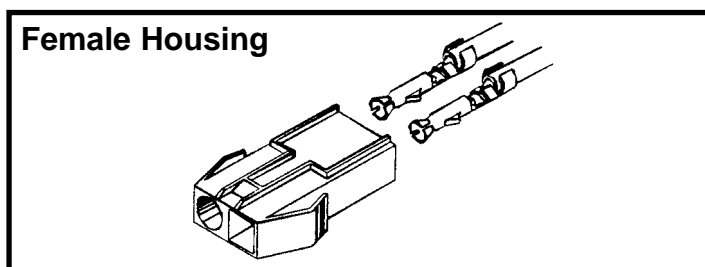

Figure 2
6. Insert the two pin/wire assemblies into the female housing as shown in Figure 2. Pull on the wire to check that the pin is inserted all the way in. It should not pull out of the housing. The locking tabs should be bent outward to hold the pin in the housing.